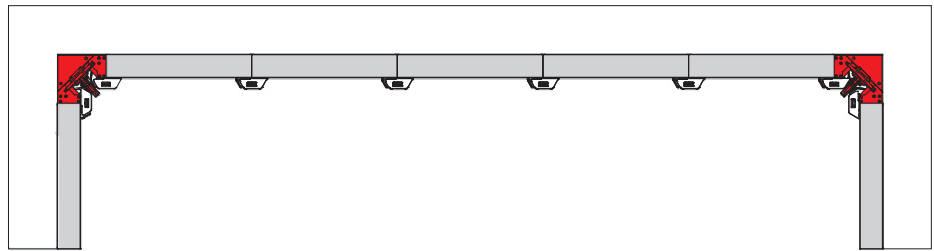

Fig. 49.1
1. Remove the AS assembly locks connecting the stripping corners to the panels (Fig. 49.1).